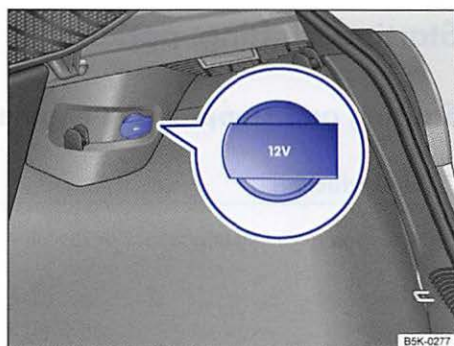

Fig. 117 In the luggage compartment: 12-volt socket.
- In the luggage compartment ⇒ fig. 117.